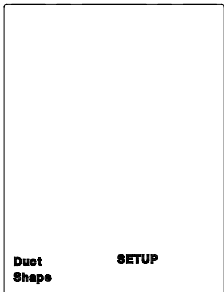

Fig. 3
1. While the meter is in **Setup** mode, mode, press **▲/Unit** or **Unit/▼** button to scroll to the **Duct Shape** setup option (Fig. 3).